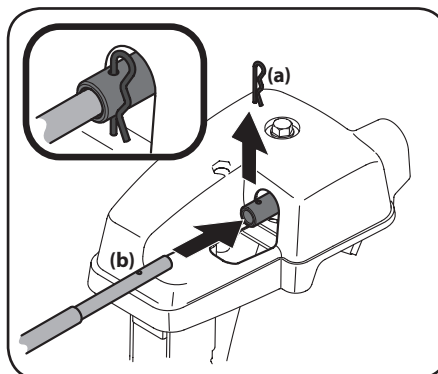

Figure 2-38
4. Remove hairpin clip (a) from rear of chute control assembly. See Figure 2-38.
5. Insert flex shaft (b) removed during Handle Assembly from lower handle into rear of chute directional control assembly. See Figure 2-38. Secure flex shaft to chute control assembly with hairpin clip (a) removed in Step 4.